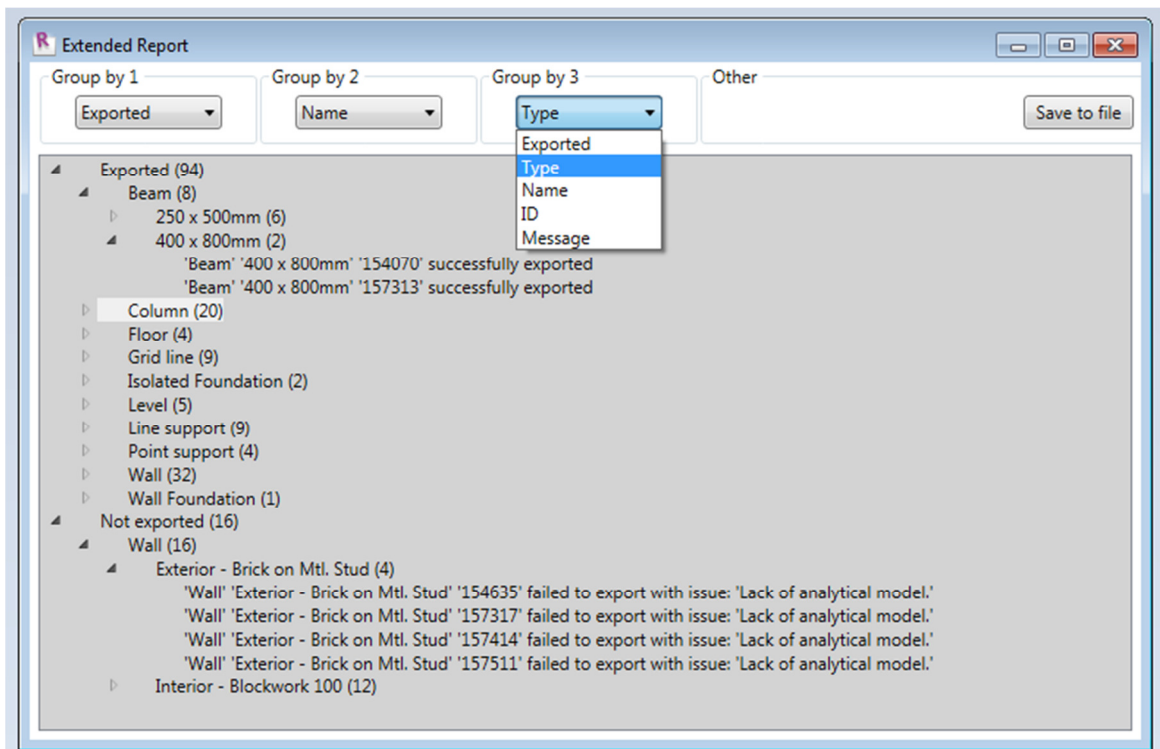

Figure II-56
Figure II-56 shows an example of how the report can be arranged. In the first group, elements are grouped by *Exported* into exported (94 elements) and not exported elements (16). Then elements are grouped by *Name*. There are 8 beams exports, 20 columns, 4 floors, 9 grid lines, etc. There are also 16 walls that were not exported. Finally, the elements are grouped by *Type*.